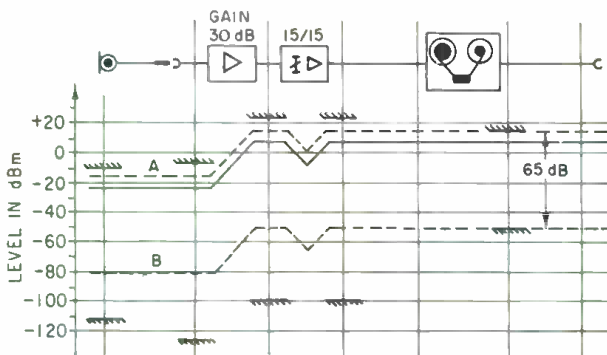

Figure 1. Level diagram of a single channel.
ment. FIGURE 1 shows the level diagram of a studio channel. The narrowing of the dynamic range resulting from the tape machine is readily apparent. Present day condenser microphones have a usable dynamic range of about 100 dB (25 dB(A) to 125 dB(A)). This value can be managed by modern mixing consoles. Studio tape recorders allow a maximum dynamic range of about 65 dB, and we, therefore, need an improvement of about 35 dB to remove this restriction on the dynamic range.